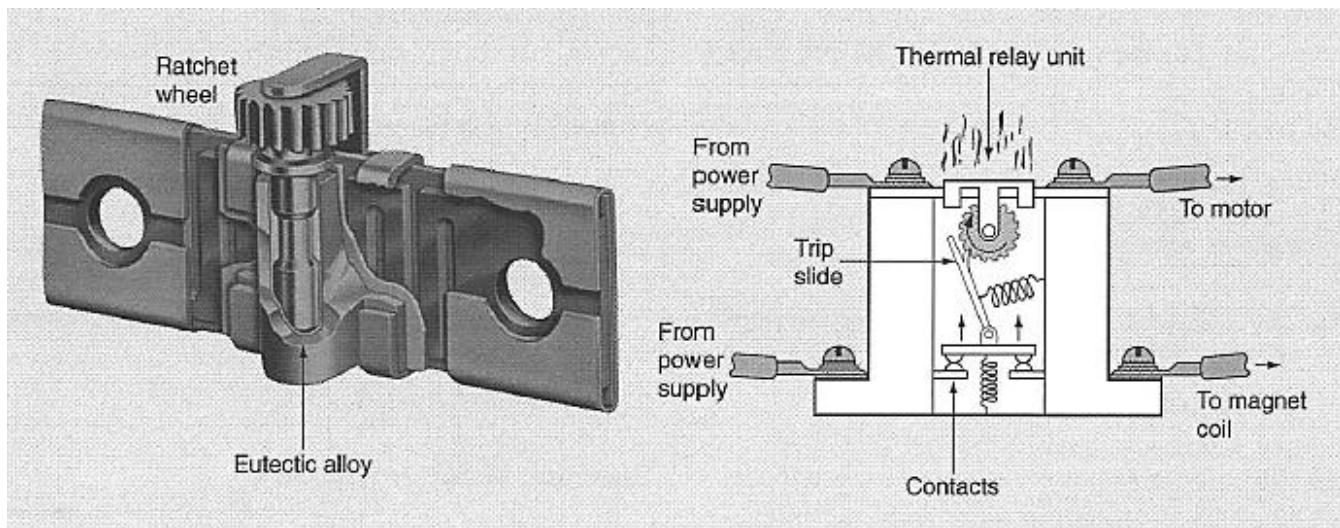

Figure 6.10: Melting-Alloy Relay
- 6-53 In a melting-alloy overload relay, the heating element melts a metal alloy inside the relay. The alloy is selected to melt at a precise temperature, usually near 100°C (212°F). When the alloy melts, it allows a plunger to rotate, releasing a spring-loaded trip slide as shown in Figure 6.10.